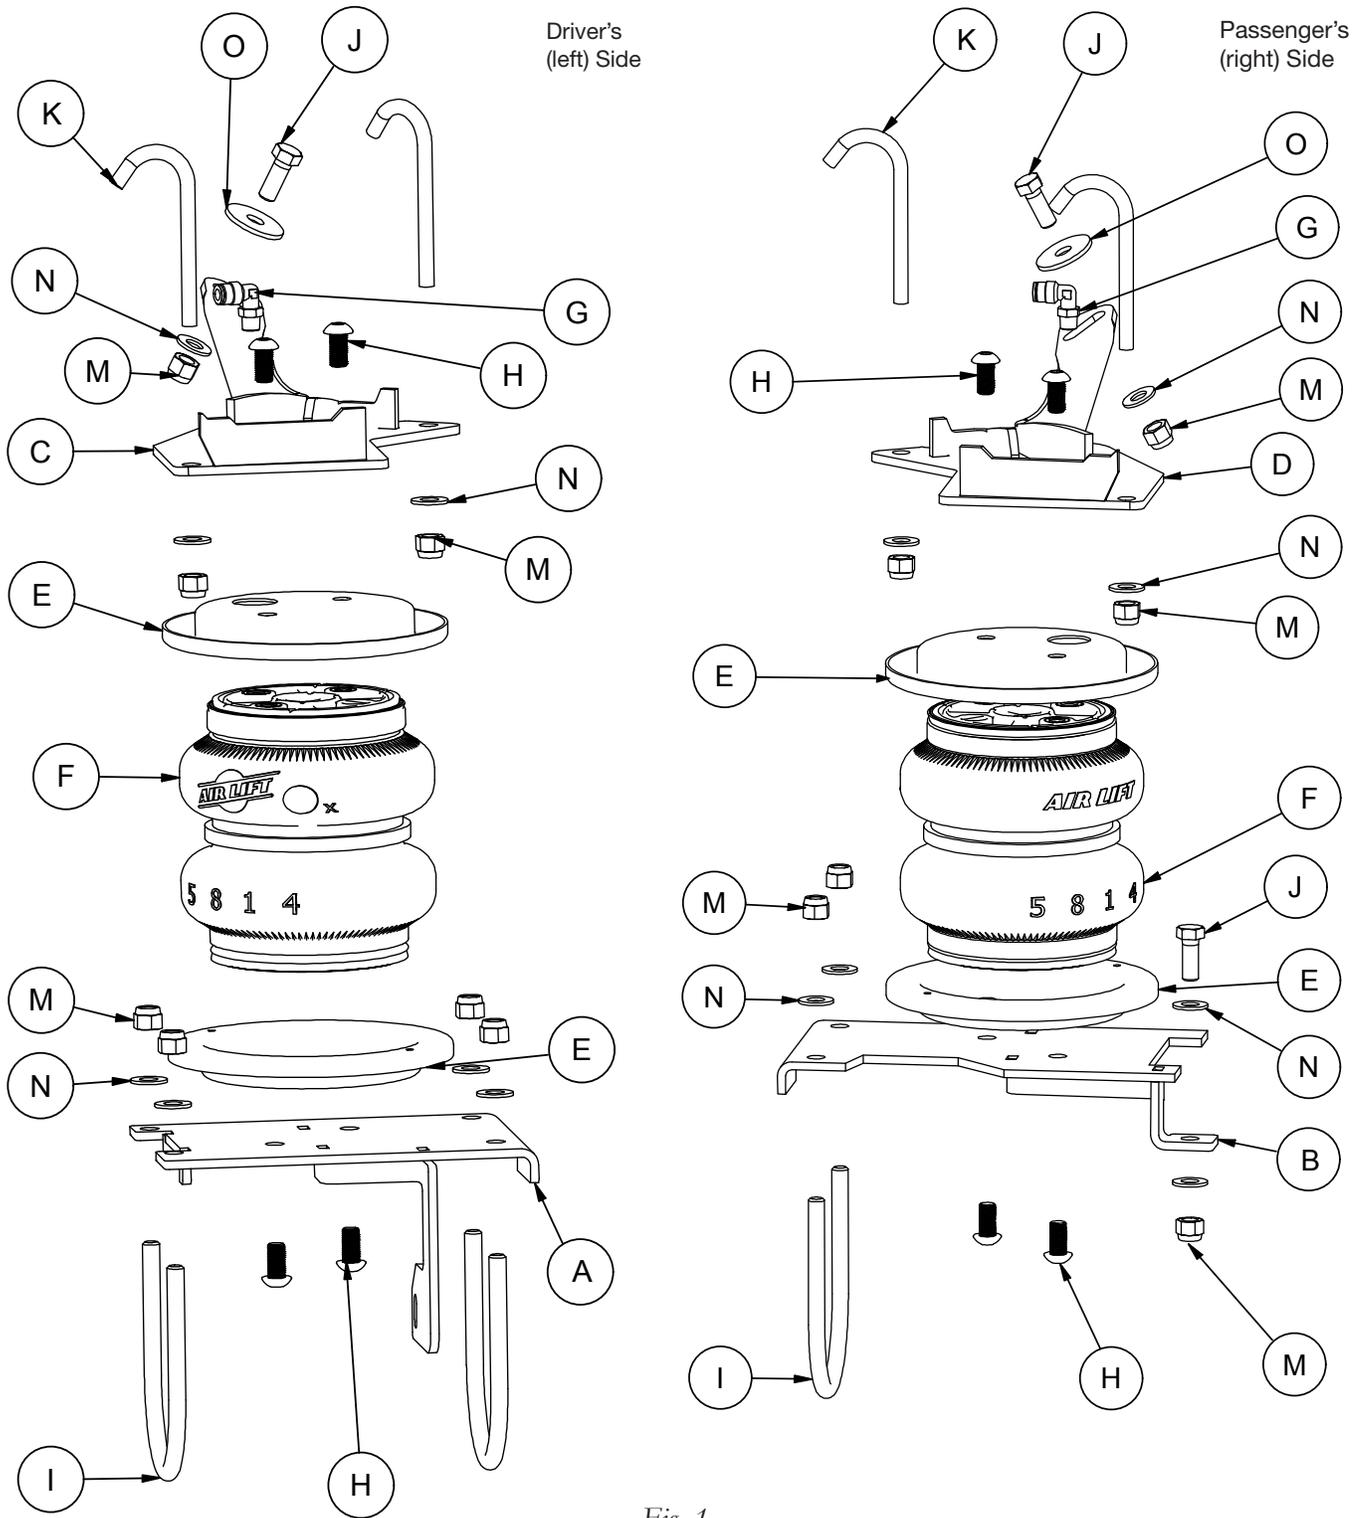

Fig. 1
\* These parts are not shown in the System Overview (Fig.1).
- Flip the air spring assembly over and set a roll plate (E) over the bottom of the air spring. Install the bottom brackets (A & B) onto the air spring assembly with 3/8" button-head cap screws (H) (Figs. 1 & 9). Torque hardware to no more than 20 lb.-ft. (27Nm).